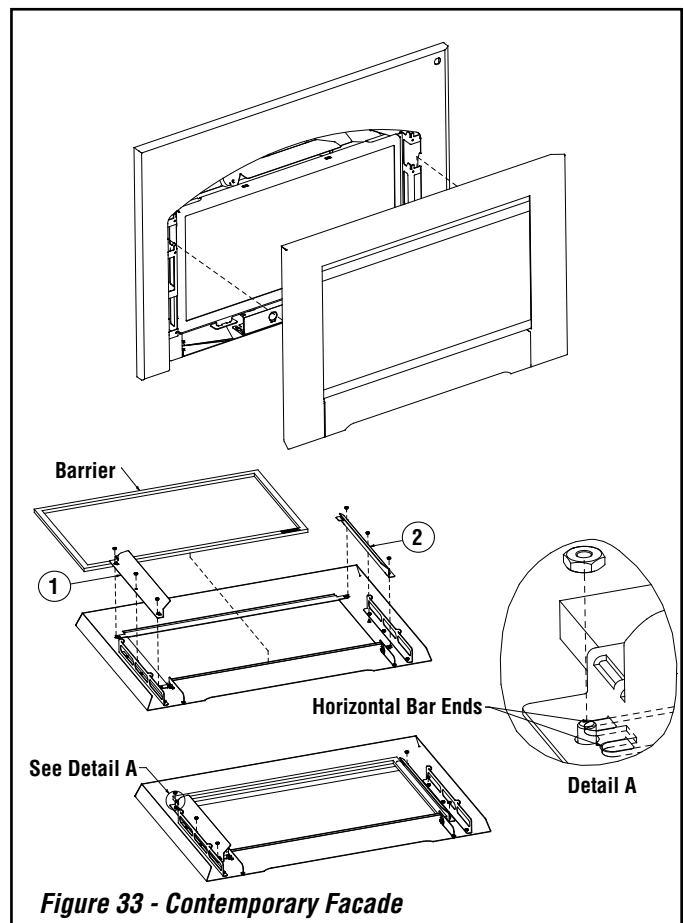

Figure 33 - Contemporary Facade
### Contemporary Facade (see Figure 33)
2. Place sight obstructers back over the threaded studs taking note that the upper and lower horizontal bar ends line up with grooves in sight obstructers (see Detail A in Figure 33).